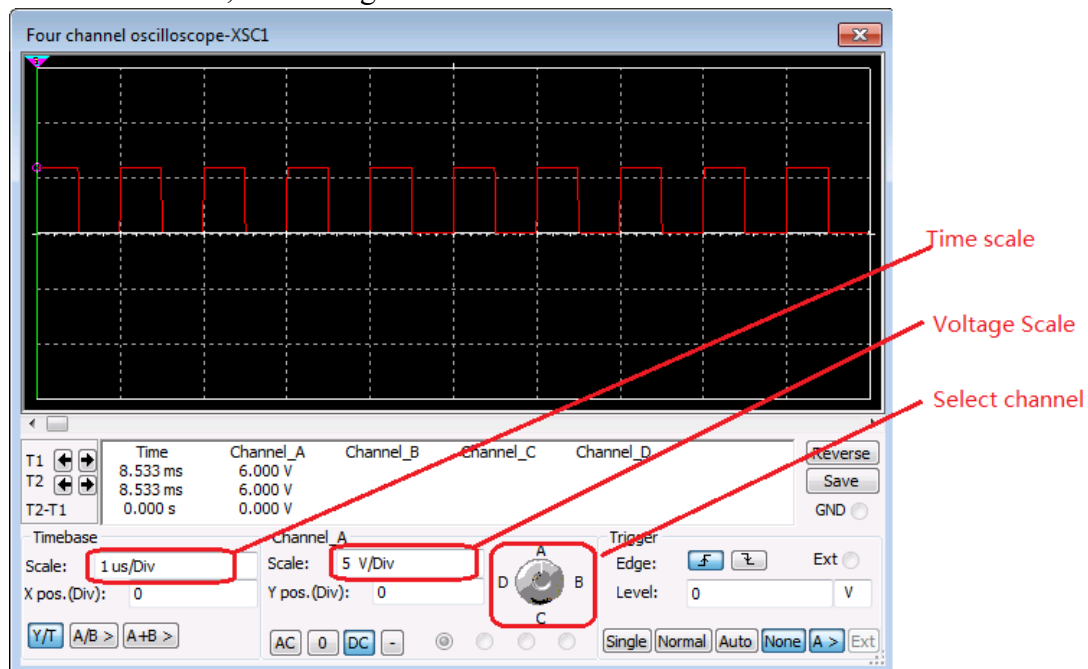

Figure 14. Panel of a four-channel oscilloscope.
- When you run the simulation, double-click the oscilloscope to pop up the dialogue box as shown in Figure 14. You can select the channel, change the time scale, and voltage scale to observe the wave.